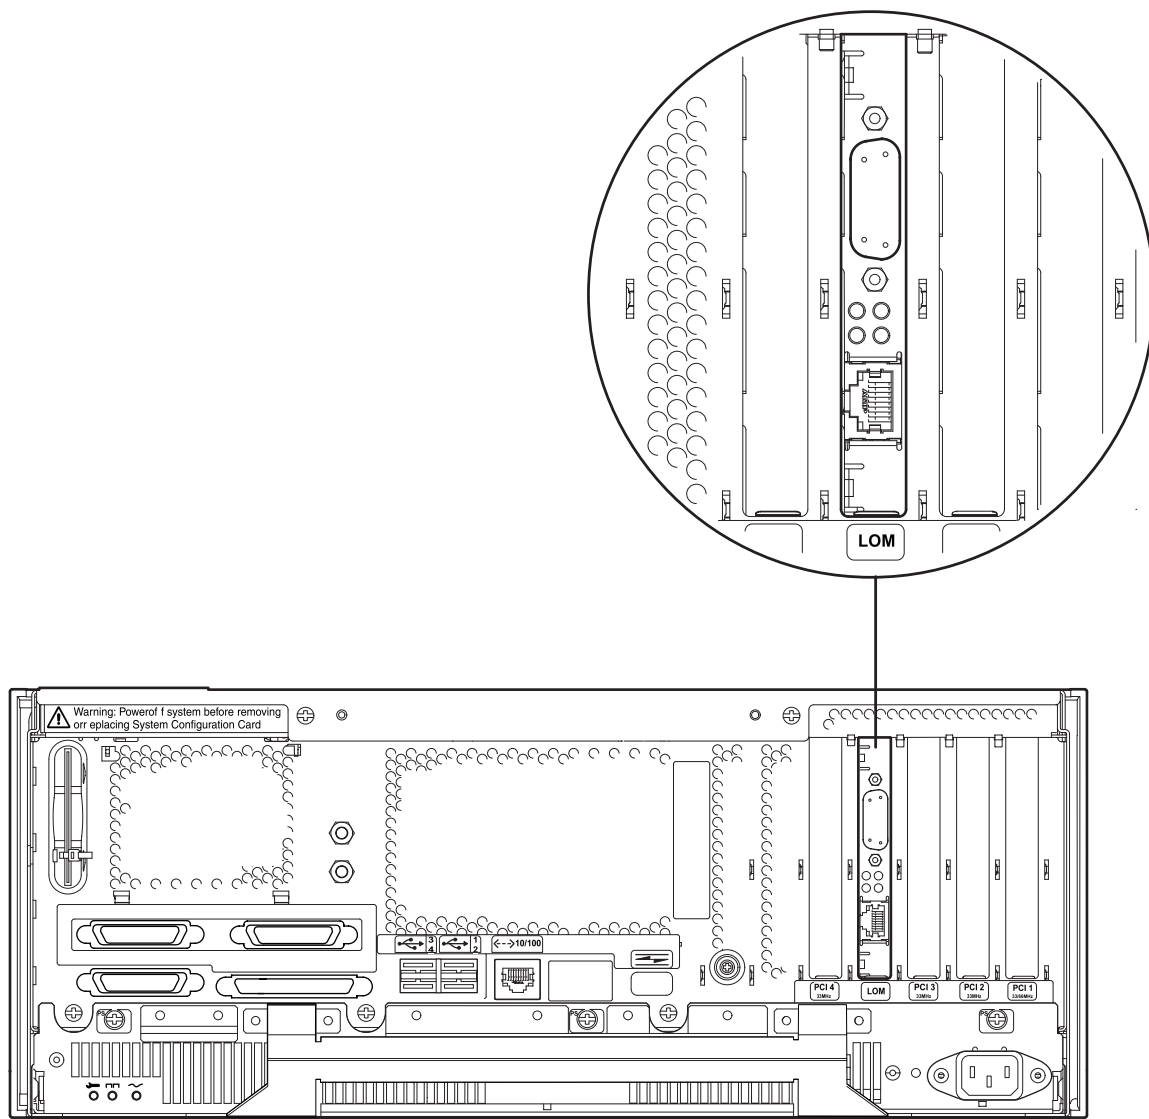

FIGURE 8-7 LOMlite2 Card
2. Locate the LOMlite2 card (see FIGURE 8-7).
2. Locate the LOMlite2 slot on the motherboard (see FIGURE 8-7).